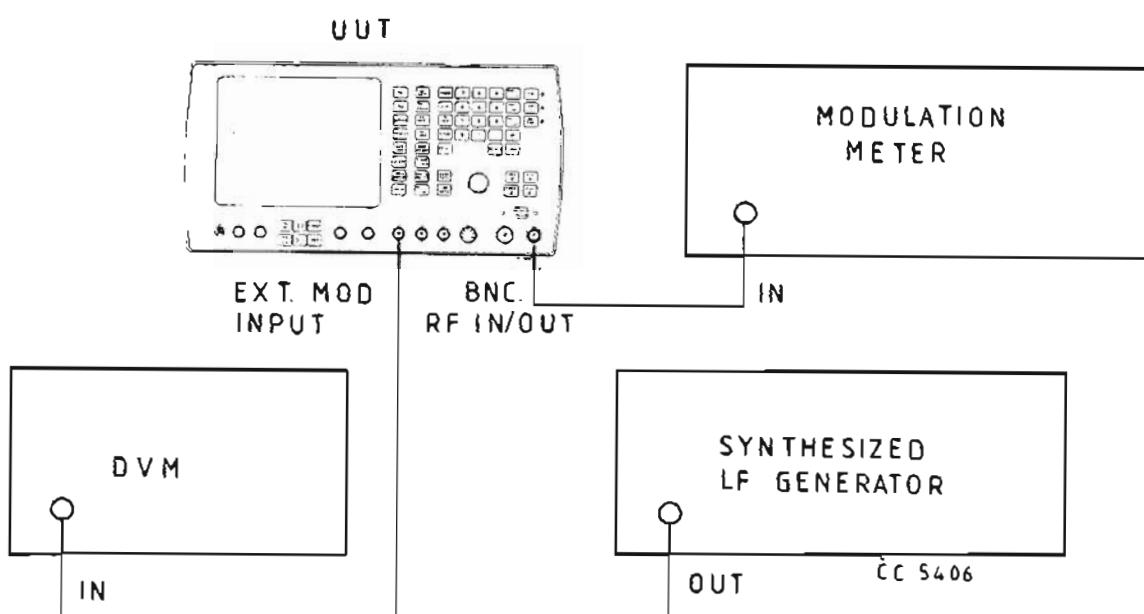

Fig. 24 Test equipment connections for r.f. generator external a.m.
- (1) Connect the equipment as shown in Fig. 24.